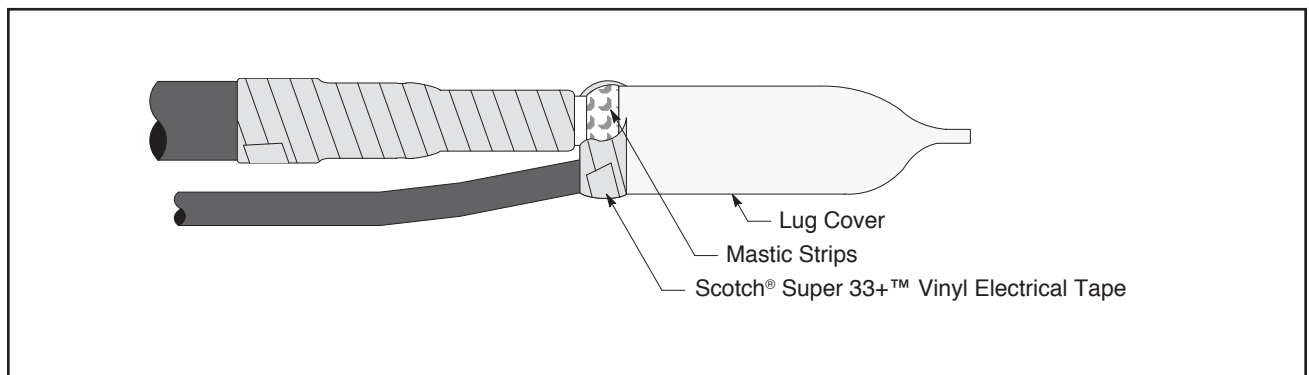

Figure 14
8.2 Remove liner from mastic sealing strips and apply around and between the cables at a position as close as possible to the end of the lug cover (Figure 14).
8.3 Overwrap mastic sealant and the end of the Lug Cover with one or two wraps of vinyl tape (Figure 14).